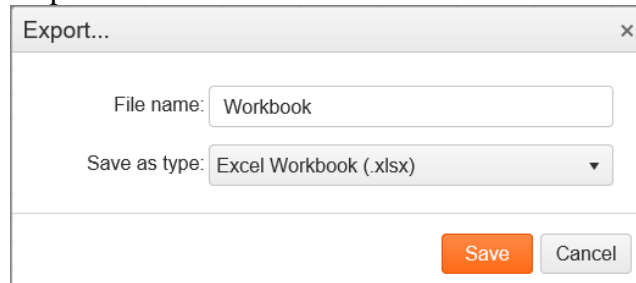

Figure 21: Export Screen
2. The Import from Excel screen opens, as shown in Figure 21.